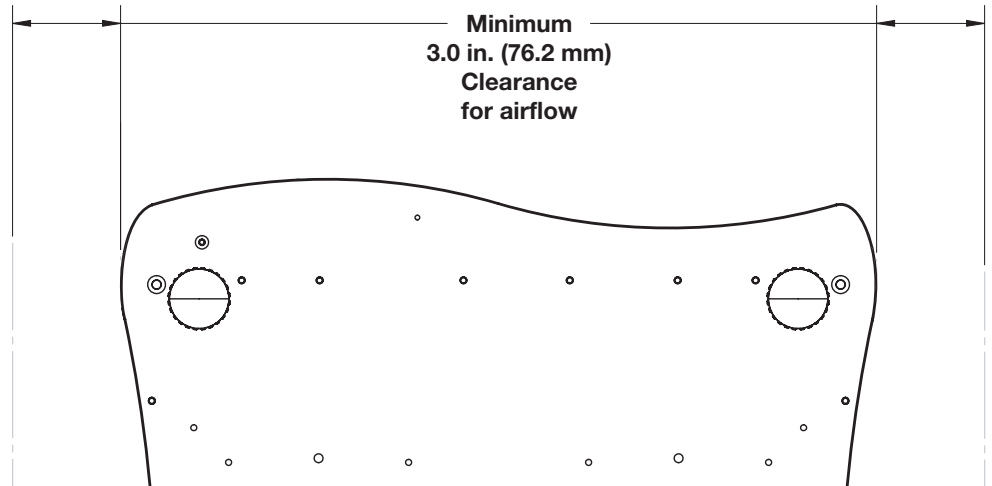

Figure 3-6. Ventilation Requirements for Enclosure Mounting
- Ventilation** ➤ If you are mounting the Q-1500d in an enclosure, leave at least 3 inches (76.2 mm) of space on the left and right sides between it and surrounding objects, as shown in Figure 3-6. This allows heat to disperse, maintaining the proper operating temperature.